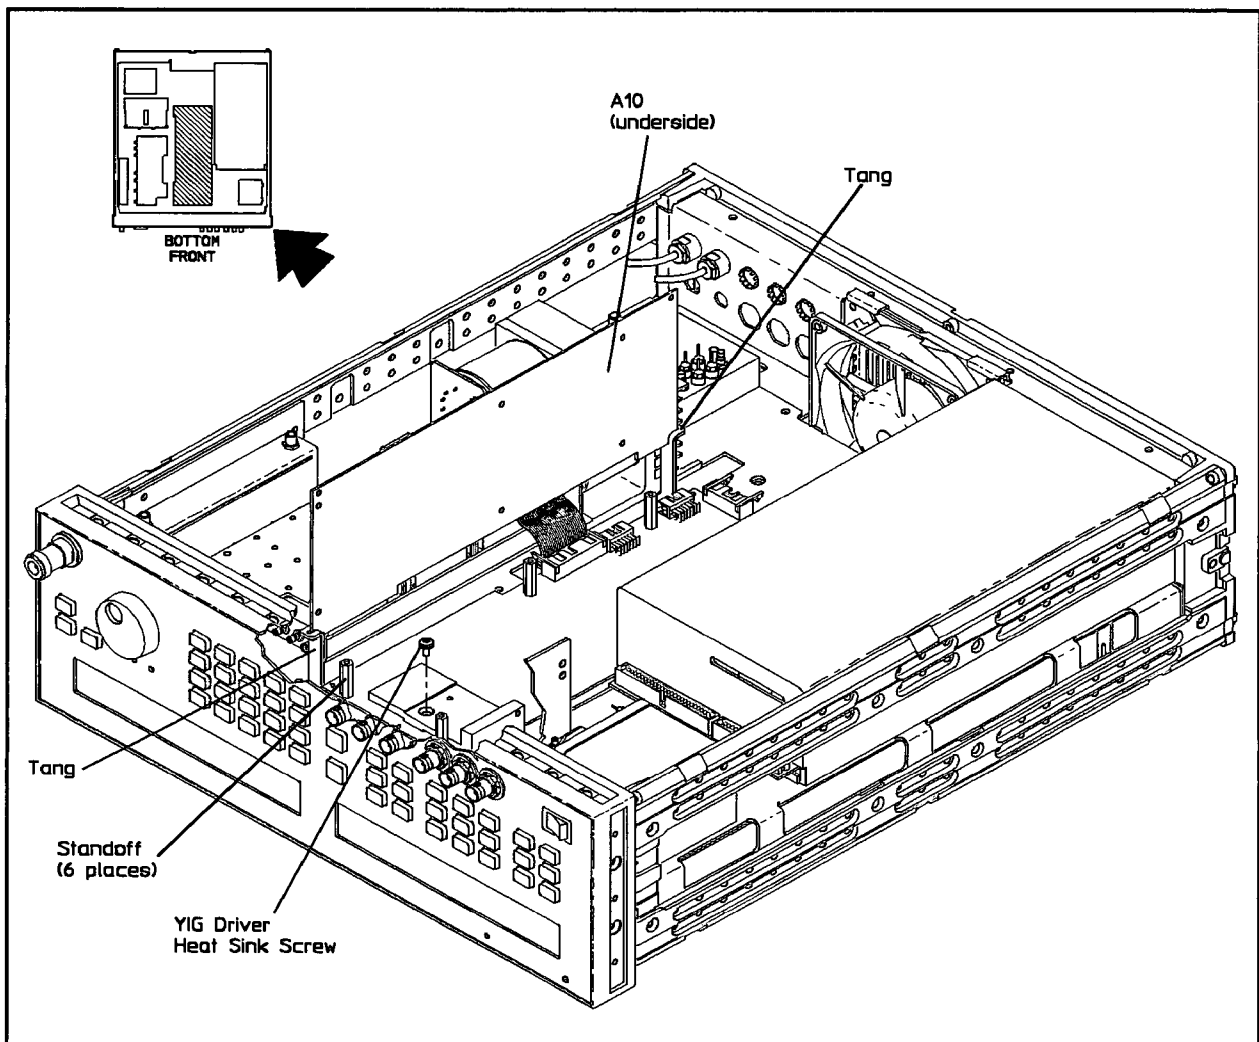

Figure 5-26. YIG Driver Board Service Position
3. Using a size 10 TORX® screwdriver, remove the six screws connecting the A10 assembly to the standoffs and the A9 assembly. See Figure 5-26.
4. Insert the ALCboard assembly, A10, into the tangs on the frame as shown in Figure 5-26.
1. Using a size 10 TORX® screwdriver, remove the screw from the heat sink as shown in Figure 5-26.